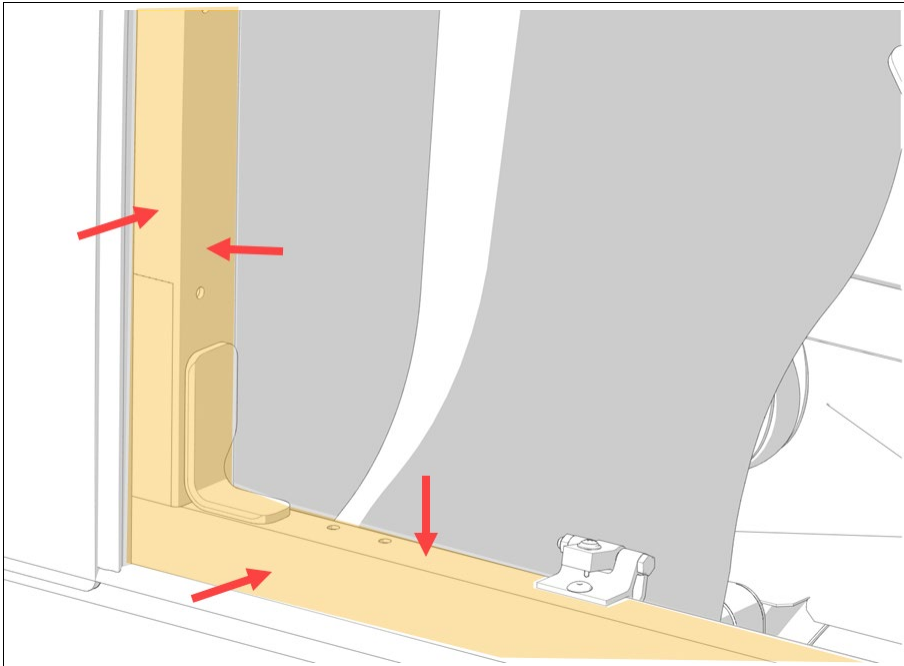
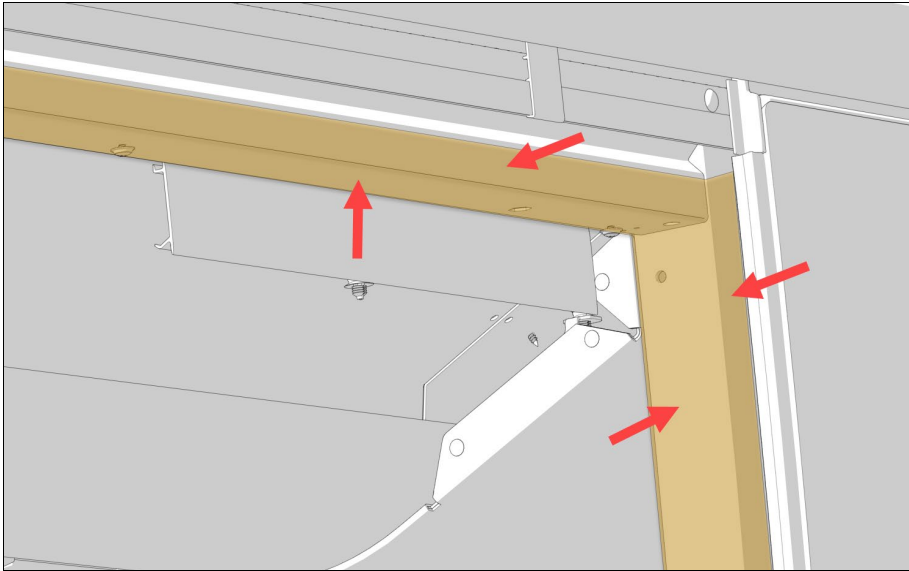

Figure 8: clean all around the inner and outer surface of the frame
Figure 9: clean all around the inner and outer surface of the frame
7. To avoid weak bonding, thoroughly clean the old adhesive layer on the structural member identified in Figure 8 and Figure 9 with silicone remover (anti-silicone) p/n 682989 and clean Chix clothes. Wipe and dry surfaces with clean blue clothes.